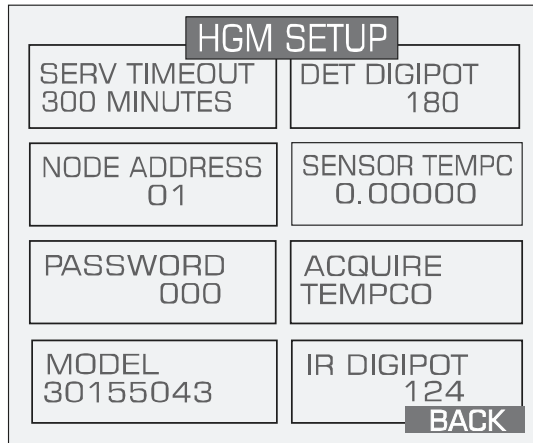

Figure 8. Setup Screen When in Service Mode
- k. Scroll to the bottom right of the screen (see Figure 8) to select 'Service Mode Entry'.